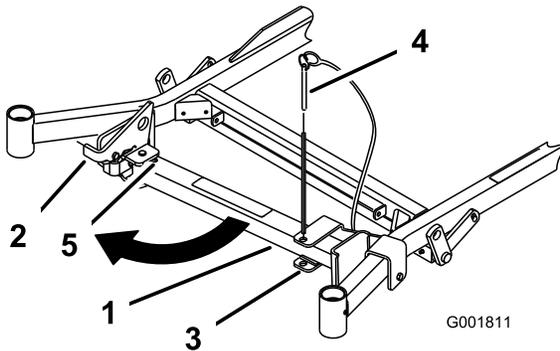
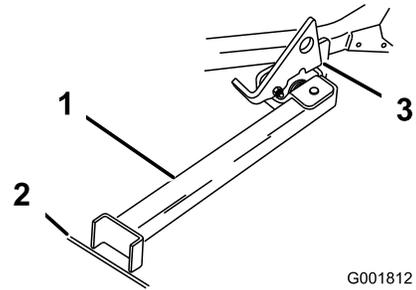

Figure 46
Figure 47
2. Remove the bracket pin (Figure 46).
4. Swing the stand foot out front and slide it toward machine, into the bottom of slot (Figure 46 and Figure 47).
5. Set the foot of the stand on the ground and rest the latch on the pivot tab (Figure 47).
- Note:** For best results, place the foot of the stand into the seams in sidewalks or into the turf (Figure 47).
7. Drive the machine onto the stand. Stop when the latch drops over the tab into the locked position (Figure 47).
5. Return the stand to its rest position (Figure 46).